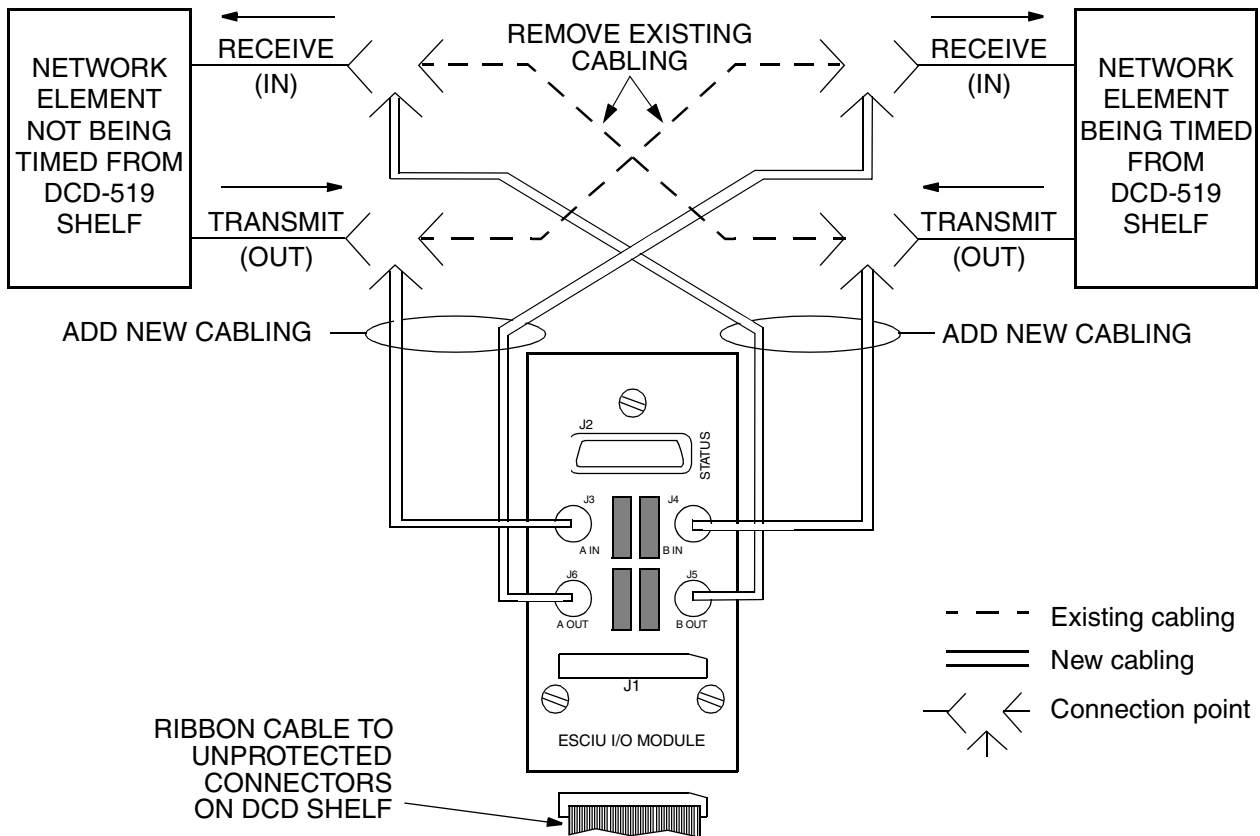
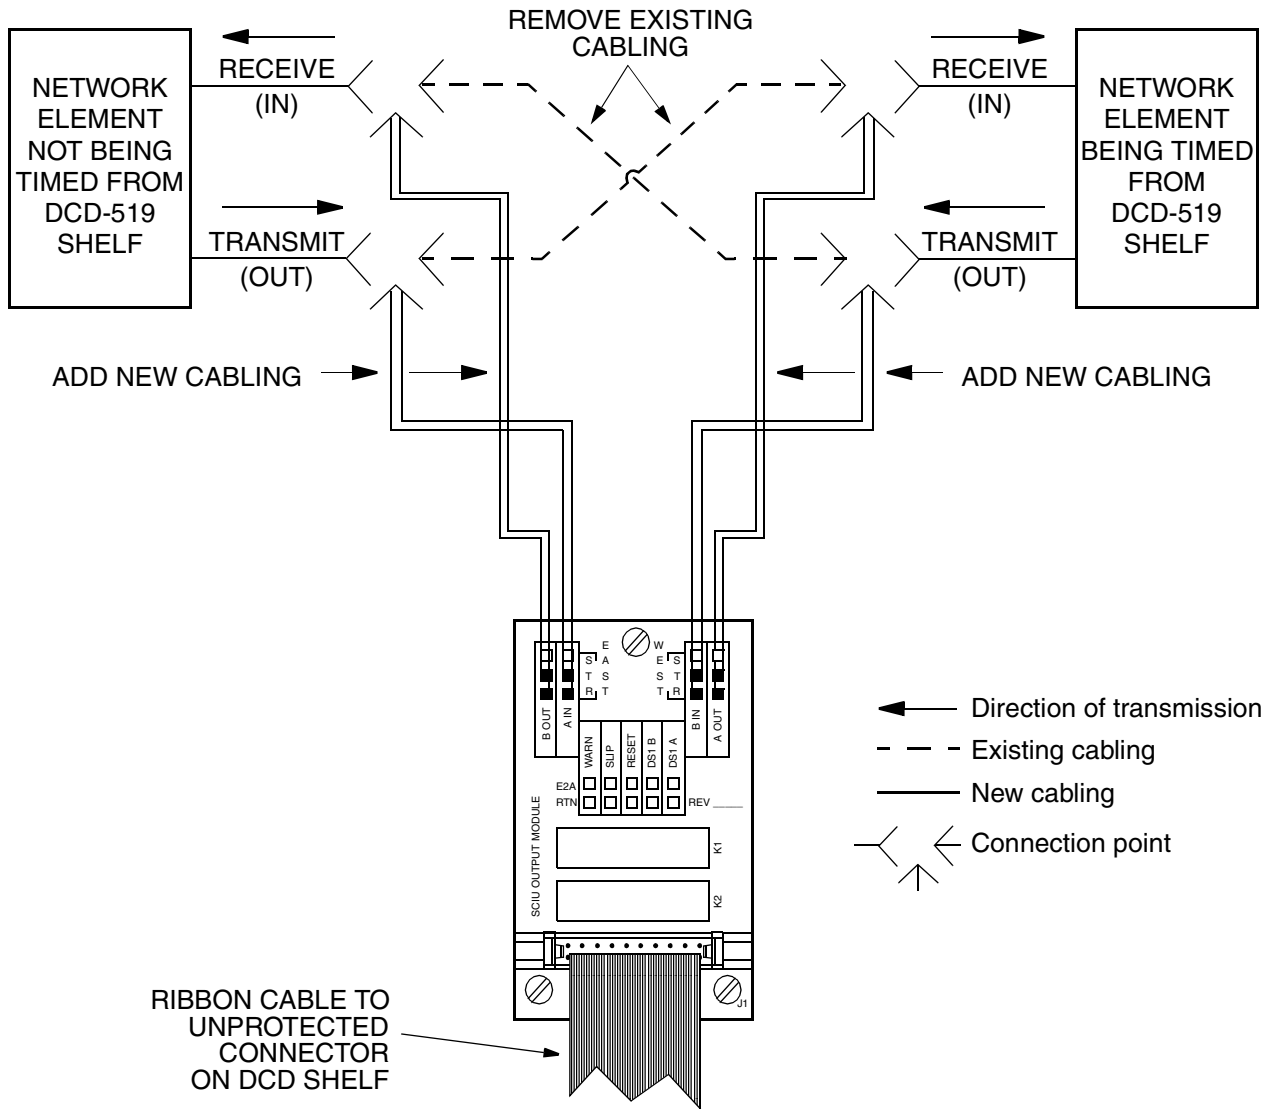

Figure 53. ESCIU Cutover without Jacks (Out-of-Service)
Figure 54. SCIU Cutover without Jacks (Out-of-Service)
5.36 If DDF access jack sets *are not* cabled to the ESCIU or SCIU module, the following out-of-service cutover procedure must be used. Consult the local company Installation Job Specifications to ensure that the network element to be retimed from the DCD-519 Shelf clock will be connected to the ESCIU or SCIU module correctly. Refer to Figure 53 or Figure 54 for the following procedure: